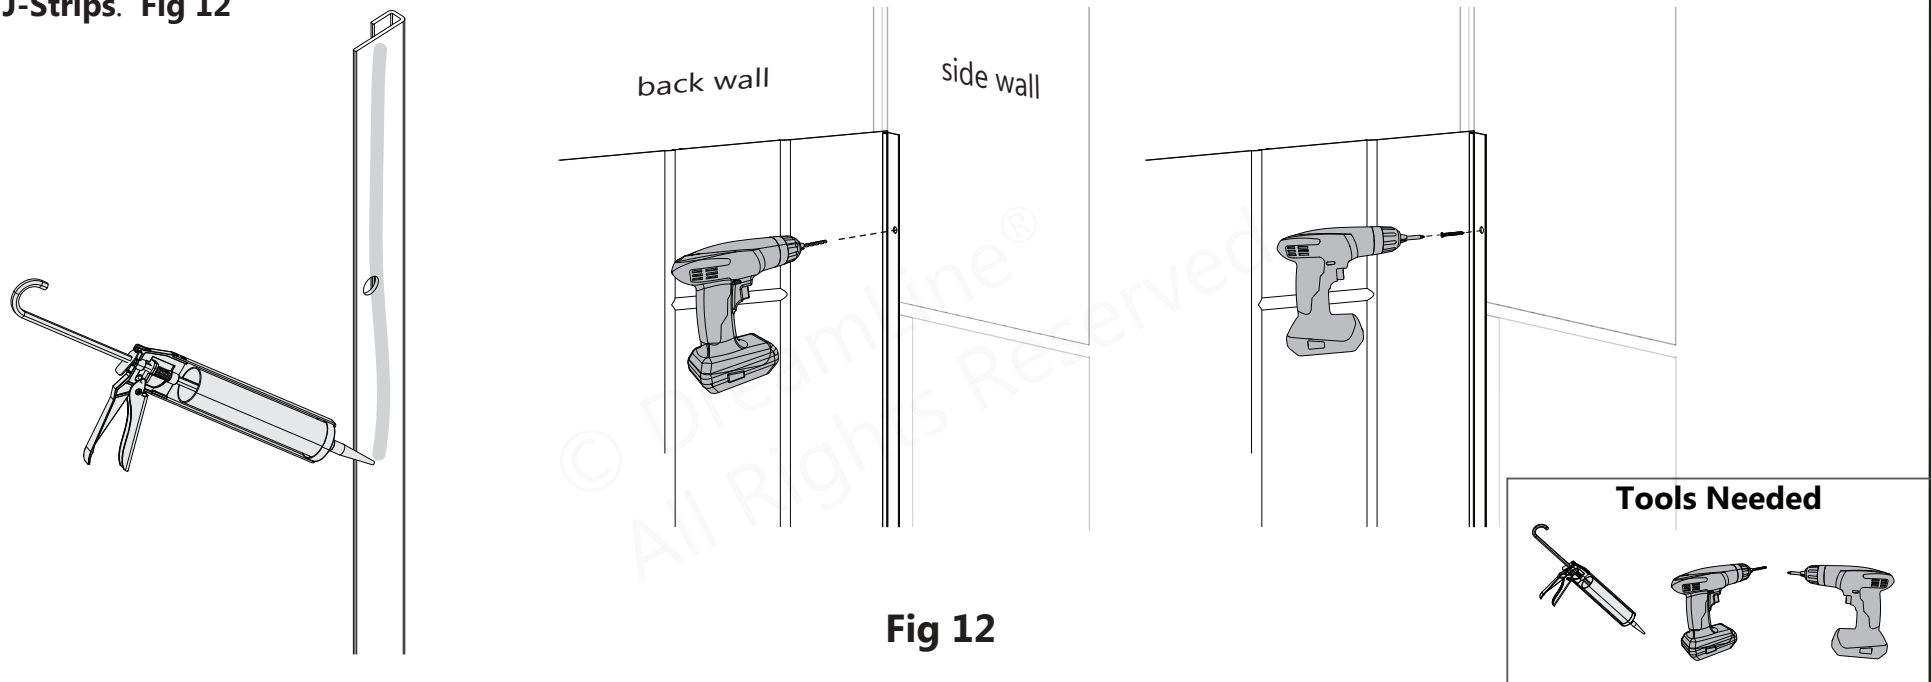

Fig 12
12. Apply clear silicone to the backs of both **J-Strips** and a thin bead of silicone into the corner of the opening. Press the J-Strips tight into the back corners. Wipe away any excess silicone with a clean rag. Use an $\text{\O} 1/8''$ bit to drill into the wall through the holes in the J-Strips. Secure the **J-Strips** with the **ST 4.2 x 30 Countersunk Screws (#05)**. Be sure the screw heads are flush with the surface of the **J-Strips**. **Fig 12**